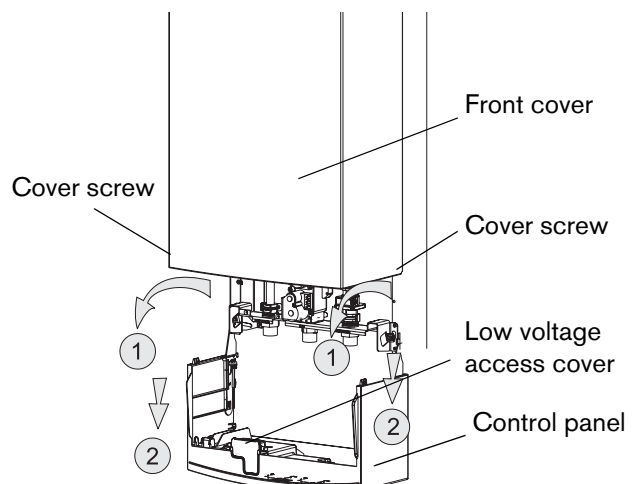

Fig. 3 Service position to access water and electric connections
- ▶ Pull control panel outwards and then pull it downwards (Fig. 3).